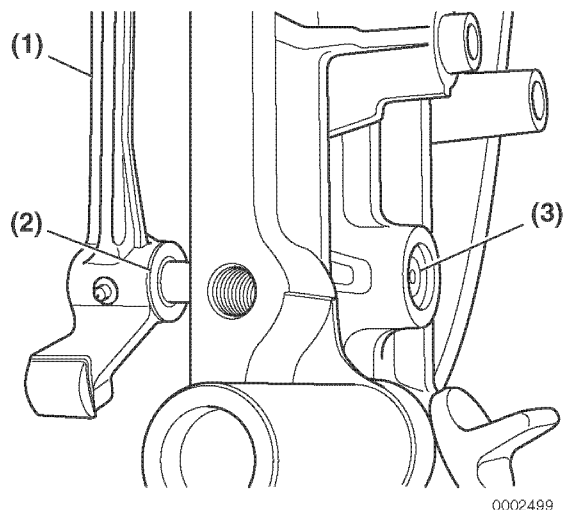

Figure 6-81
5. Remove the throttle shaft and governor arm assembly (**Figure 6-81, (1)**) along with the washer (**Figure 6-81, (2)**).
6. Carefully pry the seal (**Figure 6-81, (3)**) out of the bore.